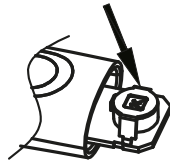

Figure 4
3. Gently pull out plastic circuit board with battery chamber approximately 1 cm (slightly less than 1/2") (See figure 4).